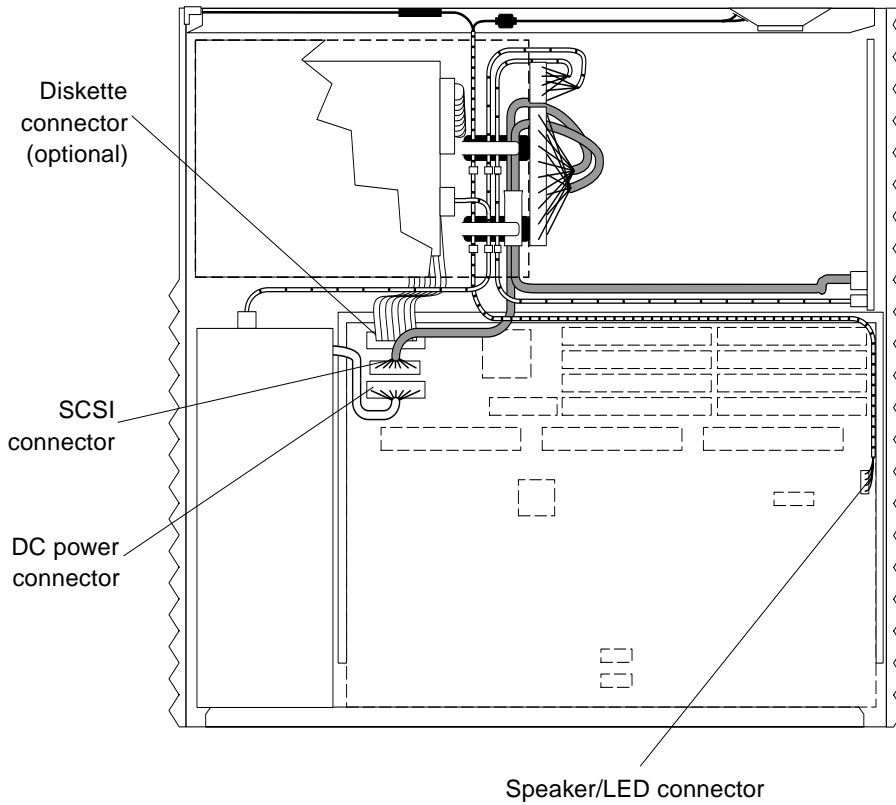

FIGURE 11-36 Disconnecting Diskette, SCSI, DC Power, and Speaker/LED Connectors
4. Disconnect the following from the system board (FIGURE 11-36):